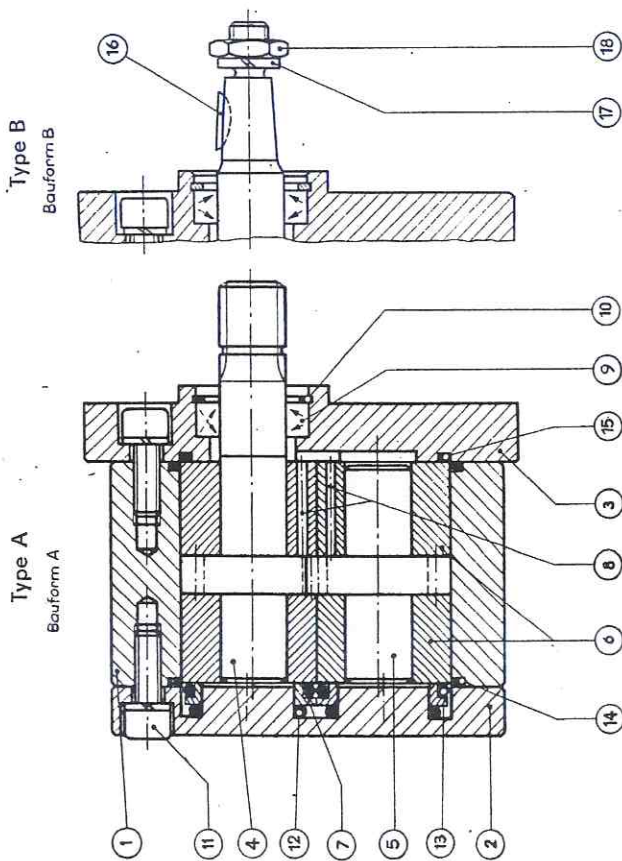

Fig. 3 Gear pumps A and B
In a housing (1) that is open to either side and that is made of a high-tensile, anodized light-metal alloy there are four axially moving and flattened slide bearing bushes (6) in which the driven shaft (4) and the pinion shaft (5) are mounted, see Fig. 3.